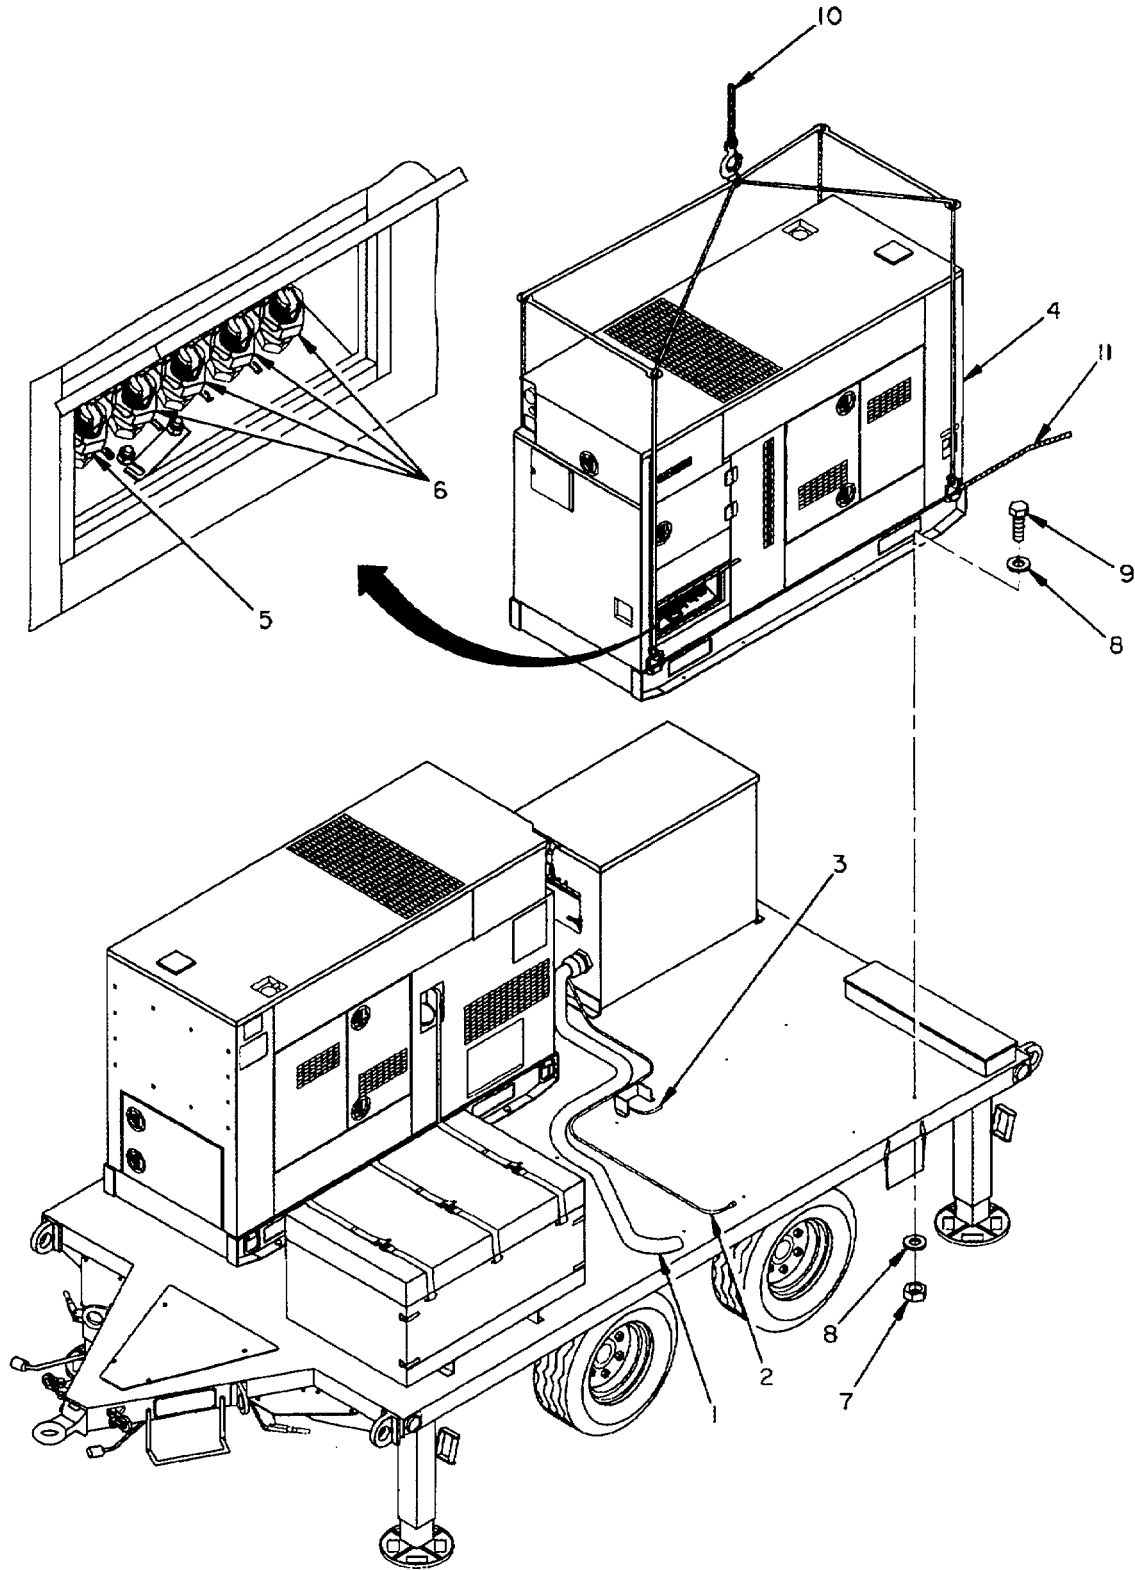

Figure 5-3. Generator Replacement
1. When removing the generator set from the power plant trailer, disconnect cable W1 or W2 (1, figure 5-3) depending on the generator to be removed. W1 is connected to generator set 1 and W2 is connected to generator set 2. Refer to FO-1 and table 5-6 and table 5-7 for assistance in disconnecting cables.
2. Disconnect paralleling cable (2) from generator set paralleling connector.
3. Disconnect auxiliary fuel line (3) connected to generator set (4).
4. Disconnect ground cable from generator terminal (5).
Ensure lifting sling (figure 5-3) consists of a suitable spreader bar arrangement to prevent damage to the generator set housing.
1. Attach lifting device (10) and lifting sling with a minimum lifting capacity of 6000 lb. as shown in figure 5-3.
2. Insert rope (11) through each of four lifting rings on generator set (4).
3. With one person at each rope (11) to steady and guide the generator set (4), lift the generator set.
6. Install eight screws (9), 16 flat washers (8), and eight new self-locking nuts (7) that secure generator set (4).
7. Disconnect lifting device (10) and (11).
8. Route cable W 1 or W2 (1) through power cable sock on front of generator set.
9. Reconnect ground cable to generator set terminal (5) and electrical leads to terminals (6) and tighten lugs.